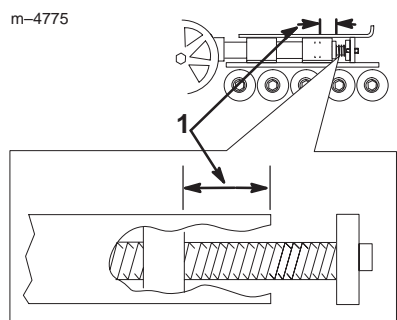

Figure 3
17. Turn the tensioning screw counter-clockwise until the distance between the tension nut and the back of the tension tube (Fig. 3) is 2-3/4 in. (7 cm.).